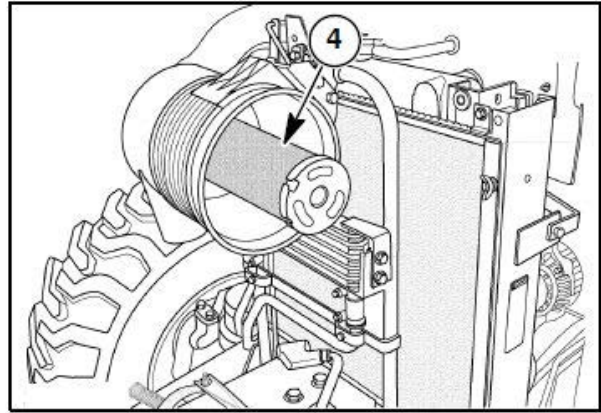

Figure 3-15
The air cleaner inner safety element (4) in Figure 3-15, cannot be cleaned. It must be replaced once it becomes partially clogged. A clogged element will cause an air restriction resulting in a loss of engine power or excessive black exhaust smoke.